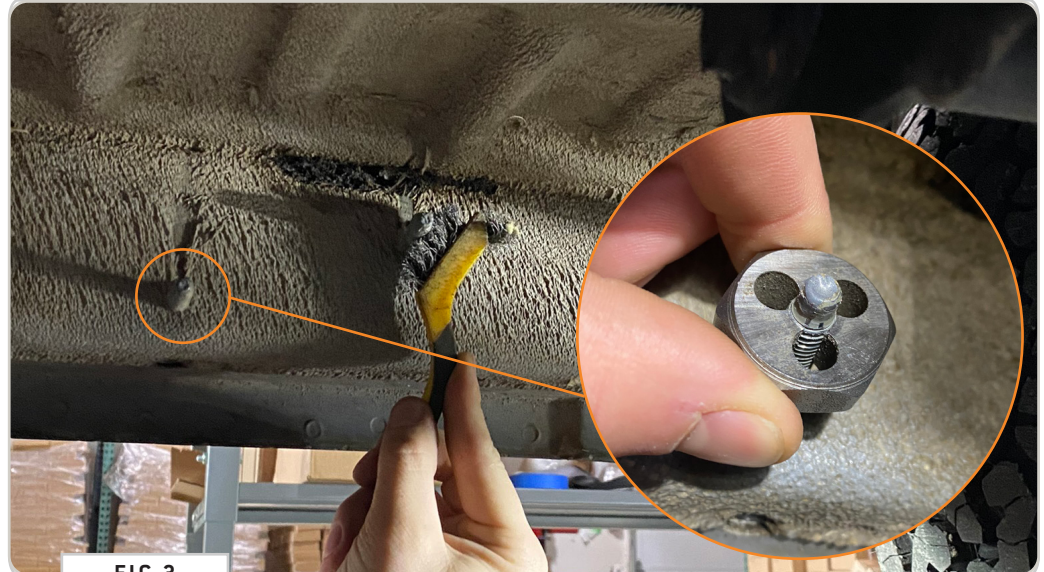

FIG 3
1.2 Underbody Factory Mount Preparation: Inspect the factory Ford mounting locations beneath the front cab area. Clean undercoating from pre-existing studs using a wire brush with a heat gun or an **M8x1.25 Die** (**FIG 3**). For pre-existing threaded or unthreaded chassis holes, apply cutting lubricant and carefully run the provided **M8-1.25 Tap** through to clean or otherwise cut in new threads (**FIG 4**).